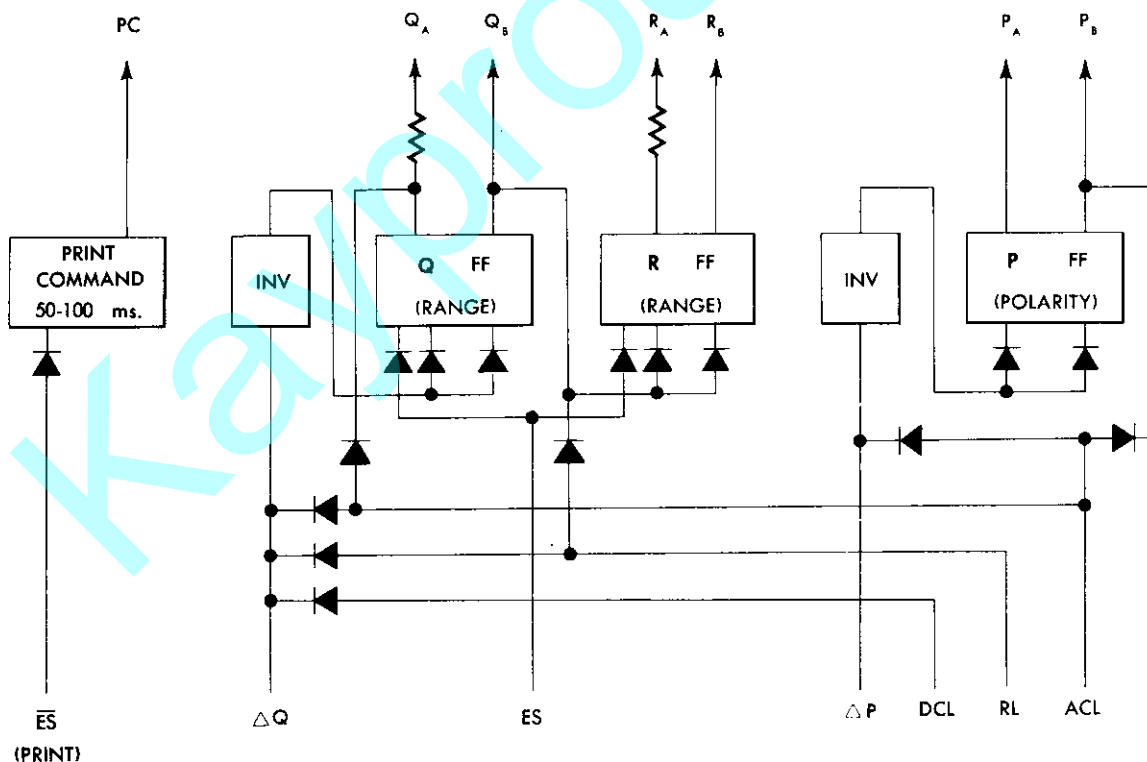

Figure 4-11. "C" Board Block Diagram.
4-7 C Board The C board contains the FF's which drive all of the relays in the DVM. A block diagram is shown in Figure 4-11. The print command (PC) FF is a 50 to 100 millisecond monostable flip-flop. It drives the print command relay, and is triggered by the setting of ES when the POWER switch is in the PRINT position. ΔQ (transfer switch position 2) drives the Q FF through an inverter. Q in turn drives the R FF. Q_A and R_A are connected to the coils of the